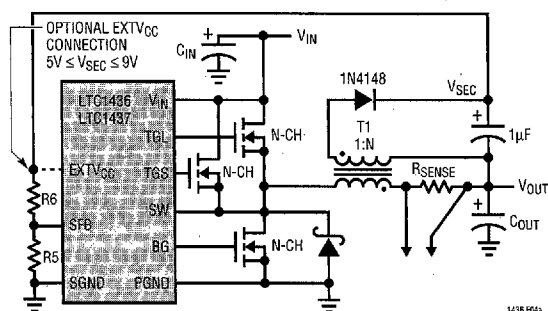
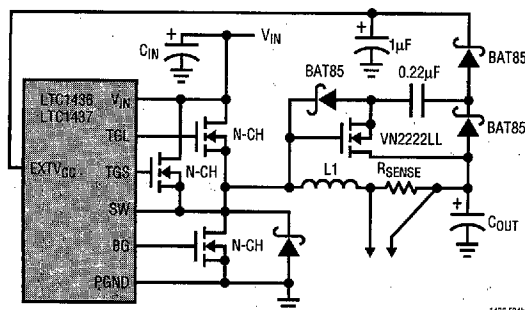

Figure 4a. Secondary Output Loop and EXTV_{CC} Connection
Figure 4b. Capacitive Charge Pump for EXT VCC
3. EXTV_{CC} connected to an output-derived boost network. For 3.3V and other low voltage regulators, efficiency gains can still be realized by connecting EXTV_{CC} to an output-derived voltage which has been boosted to greater than 4.8V. This can be done with either the inductive boost winding as shown in Figure 4a or the capacitive charge pump shown in Figure 4b. The charge pump has the advantage of simple magnetics.
The secondary output voltage is set by the turns ratio of the transformer in conjunction with a pair of external resistors returned to the SFB pin as shown in Figure 4a. The secondary regulated voltage V_{SEC} in Figure 4a is given by: